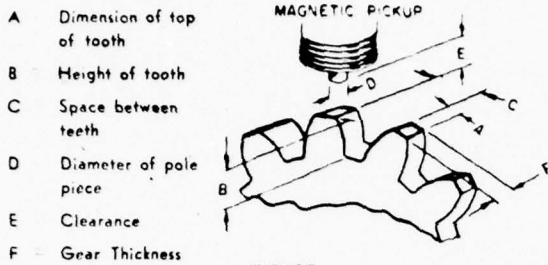

FIGURE 1
The optimum tooth size and spacing for the maximum output of magnetic pickups is shown in Figure 1.
In Figure 1, the optimum dimension of (A), (B), and (C), are given as they relate to (D) the diameter of the pole piece of the magnetic pickup being used. The optimum relationship for maximum output is as follows:
- (A) equal to or greater than (D)
- (B) equal to or greater than (C)
- (C) equal to or greater than three times (D)
- (E) as close as possible; typically .005" or less
- (F) equal to or greater than (D)
The above configuration is not available in a stock gear but it is seldom necessary to have the maximum output. Very close to the maximum output may be generated by conventional stock gears if the tooth width "A", Figure 1, is equal to or greater than the pickup pole piece diameter "D". Gear thickness is not critical as long as it is equal to or greater than the pole piece diameter. For ease of alignment, the thickness should be 2 or 3 times the pole piece diameter.